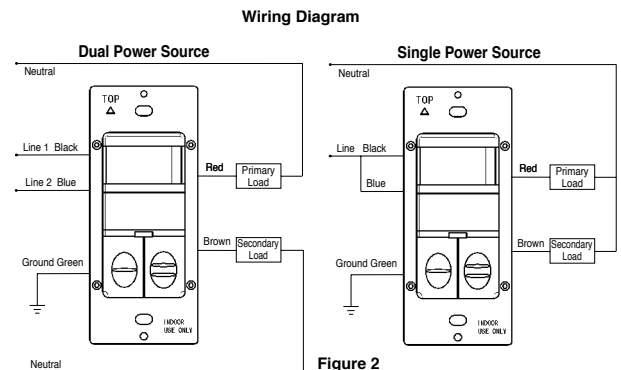

Figure 2
1. Connect lead wires as shown in WIRING DIAGRAM (see Figure 2): Black lead to Line 1 (Hot), Blue lead to Line 2 (Hot), Red lead to Primary Load wire, Brown Lead to Secondary Load, Green lead to Ground.